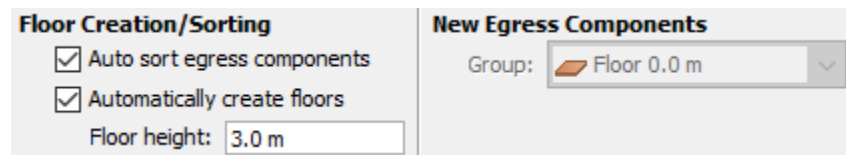

Figure 17. Floor Creation Panel
When nothing is selected in the model, the **Floor Creation** panel is shown, as in Figure 17. This panel controls the automatic creation of floors and automatic sorting of new objects into floors.
2. Clear the selection so that the **Floor Creation** panel is visible (Figure 17).